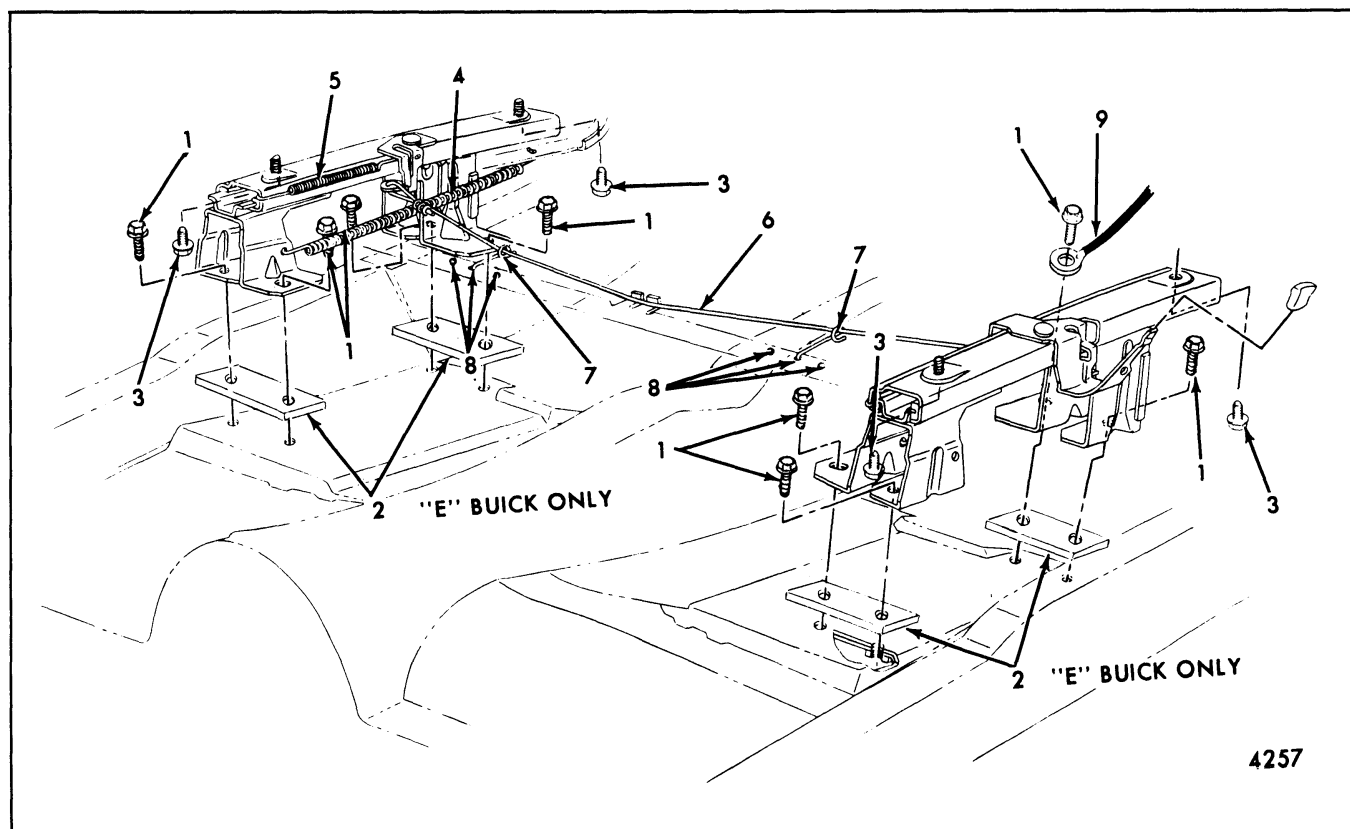

Fig. 9-4-Front Seat Adjuster Control Knob - Removal - Side Control Knob Shown - Front Control Knob Typical
**NOTE:** Control arm knobs can generally be removed and reinstalled several times without losing adequate retention. If removing or installing a control knob on a trimmed seat assembly, place a protective cover over trim material in area of knob (see Figs. 9-4 and 9-5).
Using a heavy body spoon, a long drift pin and a piece of wood as a fulcrum, as shown in Figure 9-4, carefully remove knob from adjuster control arm.